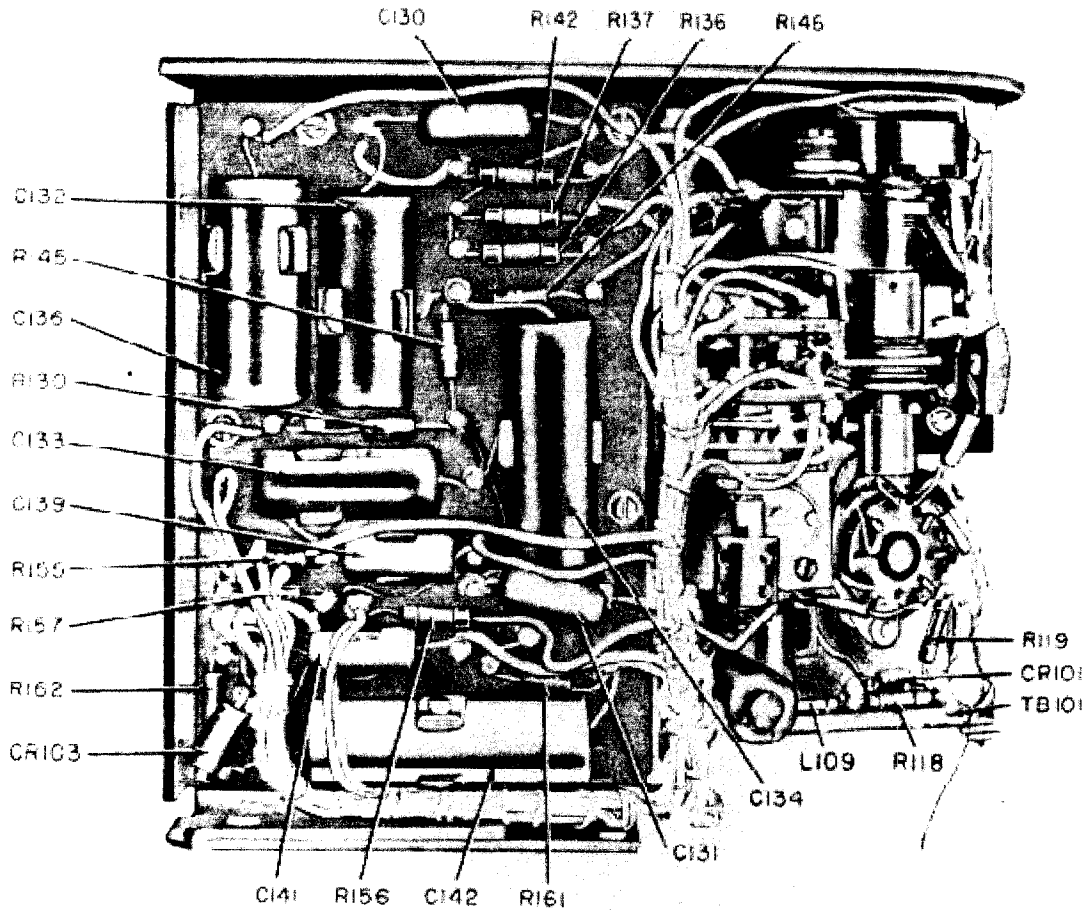

Figure 7-10. Bridge Assembly Components
b. REGENERATION CONTROL ADJUSTMENT	(1) Turn % MOD control (E104) fully clockwise. (2) Turn DEGEN control (R143), (see figure 7-10), until audio oscillations start. Do not advance beyond this point as distortion of the audio signal will result.
c. INOPERATIVE ON EITHER 400 OR 1000 CYCLE POSITION	(1) Check bridge circuit resistances R136, R137, R140, and R141.